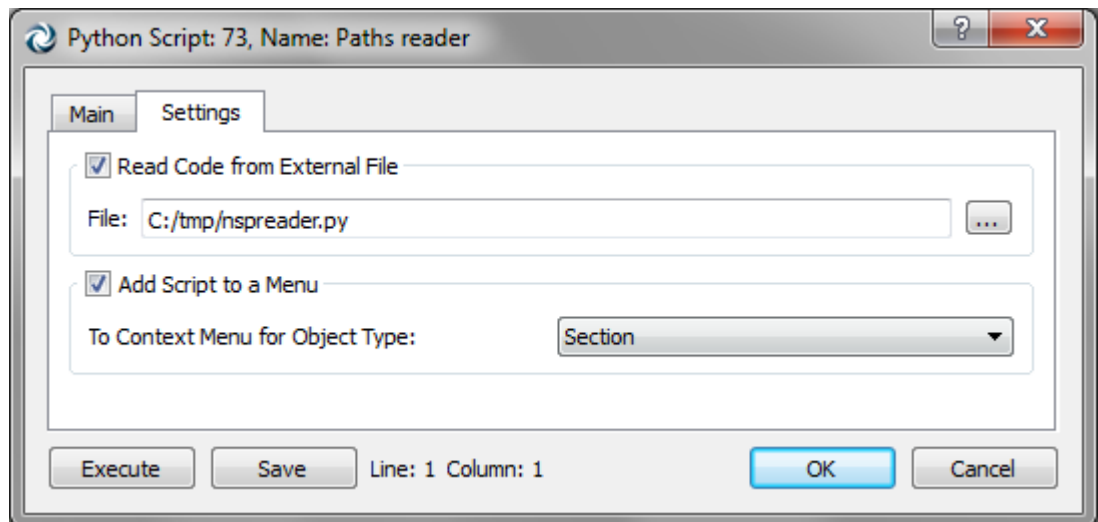

Figure 296 - Assigning a script to Sections
- *target*: contains the object from which the script is executed, if the script is linked to an object type (see Figure 296)